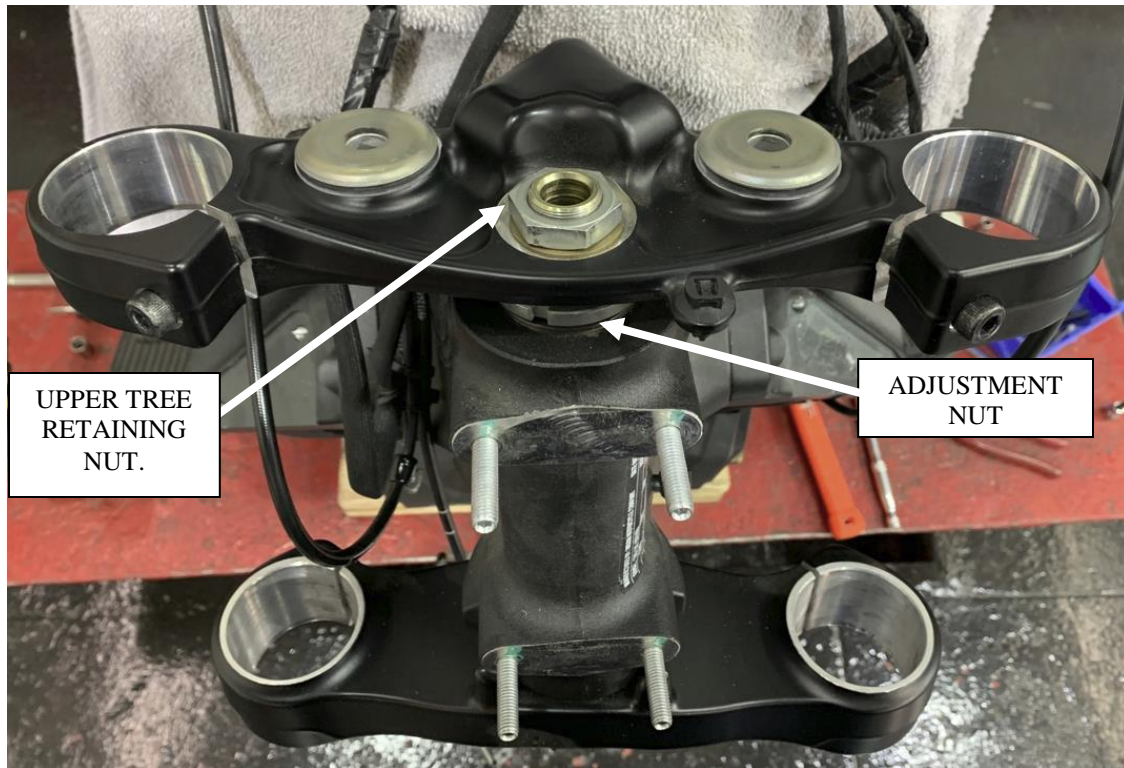

Figure 18: Remove the triple tree clamps.
22. Remove the retaining nut on the upper triple tree, then remove the upper triple tree. Remove the adjustment nut from under the upper triple tree and slide the lower tree and stem out the bottom. The adjustment nut is a spanner wrench style nut, but should have very little torque on it. You should be able to remove it with a screw driver and a tap from a hammer if you do not have the proper wrench. See Figure 18.